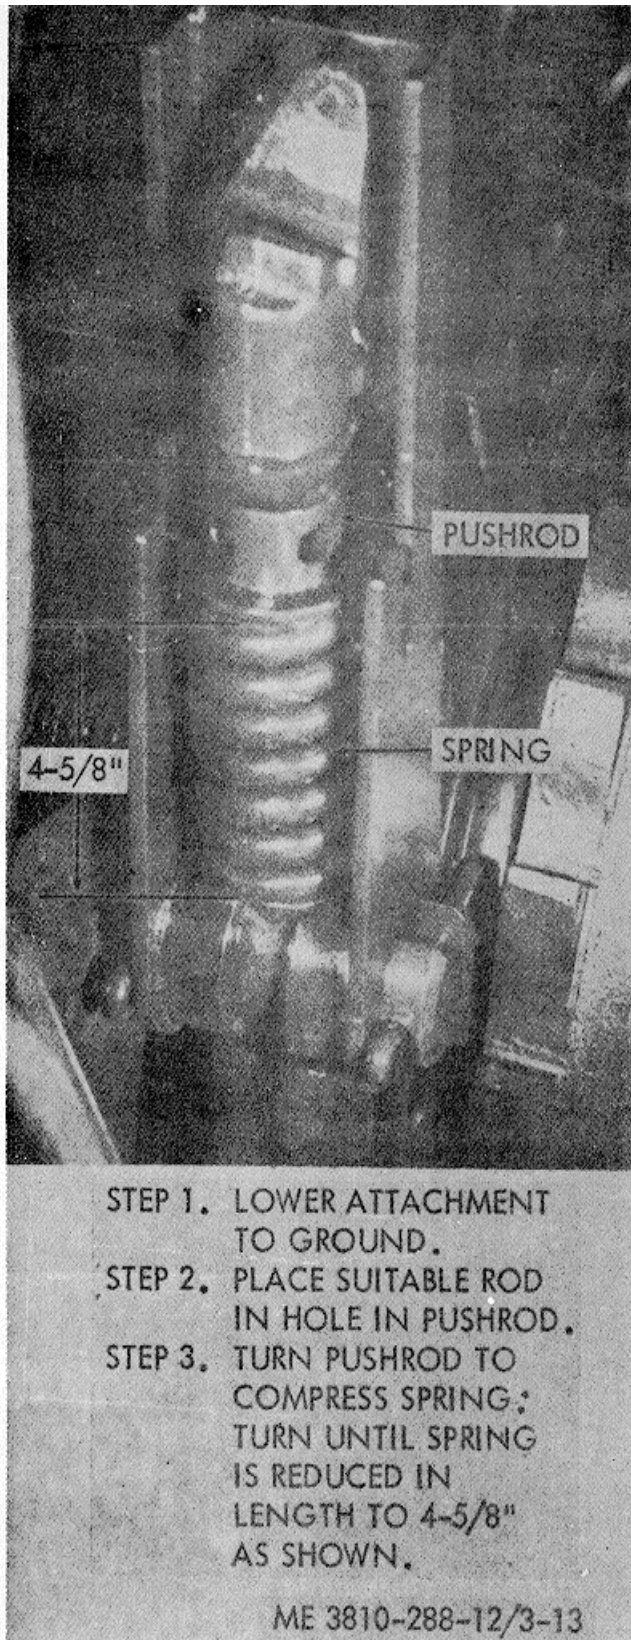

Figure 3-13. Adjusting boom hoist brake.
b. Adjust. Refer to figure 3-13 and adjust the boom hoist brake.